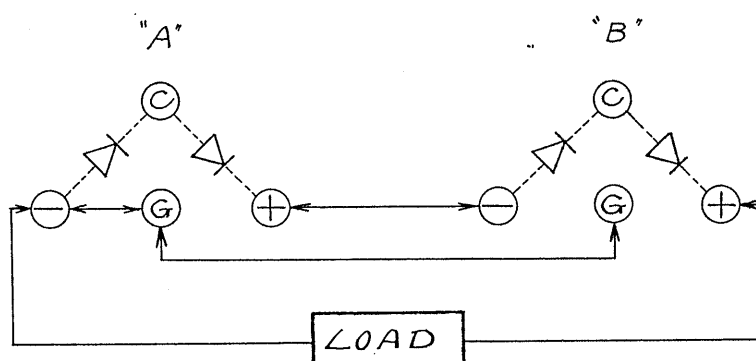

Fig. 10 In case of grounding of minus terminal
- (1) Output voltage higher than 60 V can be used as series output. Connect output terminals as shown in Fig. 10. Take care not to ground the different terminals of the two equipments. Also, do not connect the COM terminal. In this case, turn the % knob of DUAL TRACKING equally for both equipments, and the output can be varied accurately.
In this method of operation, overload causes one equipment to apply output voltage in the reverse direction to another equipment in which the protective circuit has started to operate first, and the serial control transistor in the latter is destroyed. To prevent this trouble diodes are connected between output terminals to bypass current. (Refer to Fig. 10)